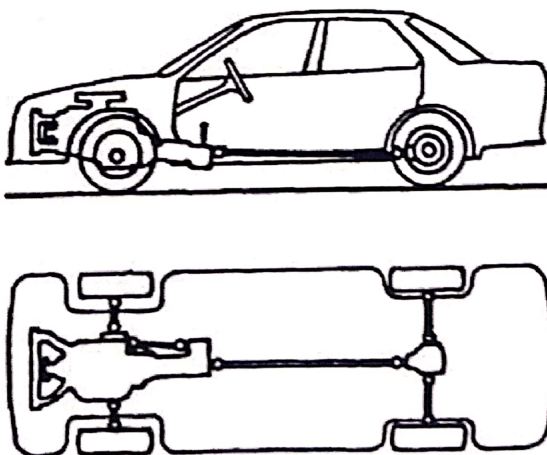

Figure 6
- (b) Figure 6 is schematic of a 4-wheel drive.